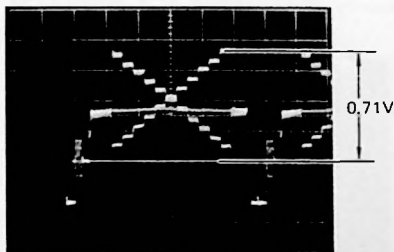

Fig. 4-4-48
- Adjust AIC SET VR224 for 0.71V from the blanking level to the top step of the gray scale waveform. (Fig. 4-4-48)